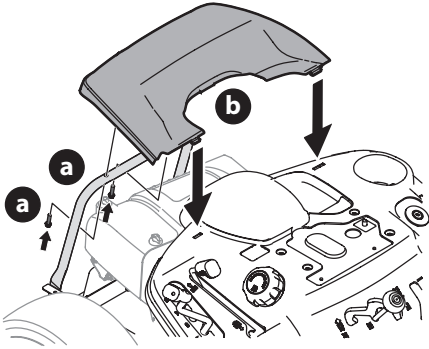

Figure 13
1. Remove the two factory-installed hex screws (a) located on the rear engine cover (b). Retain the hex screws (a) for later instructions (Figure 13).
2. Install the rear engine cover (b) by positioning it in place as shown in Figure 13. Tip the rear engine cover (b) forward to fit it into the slots provided, then rotate it backwards to align the mounting holes.
3. Secure the rear engine cover (b) with the two hex screws (a) removed in Step 1. Do not over-tighten (Figure 13).